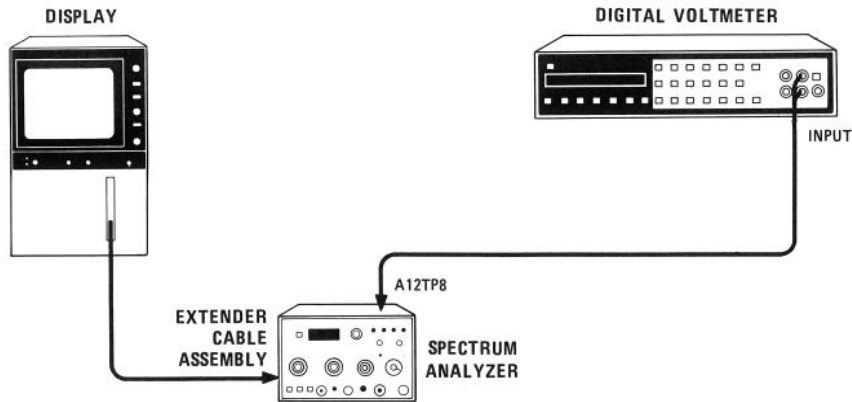

FIGURE 5-12. + 19.5V ADJUSTMENT TEST SETUP
2. Connect equipment as shown in Figure 5-12. Connect digital voltmeter to A12TP8 (left side of A12R7 +19.5V adjustment).